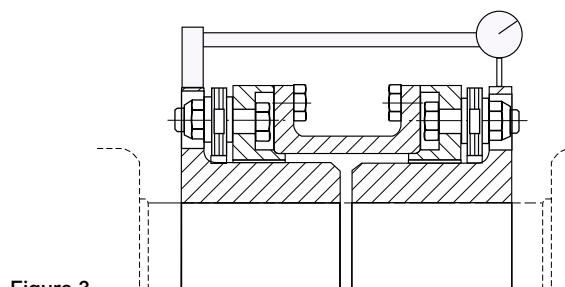

Figure 3
- E. **Parallel Offset** — Rigidly mount a dial indicator on one hub or shaft, reading the other hub flange outside diameter, as shown in Figure 3. Compensate for indicator set-up sag. Rotate both shafts together. Adjust the equipment by shimming and/or moving so that the indicator reading is within .001 inch per inch of the axial length between flex elements. See Chart (A).